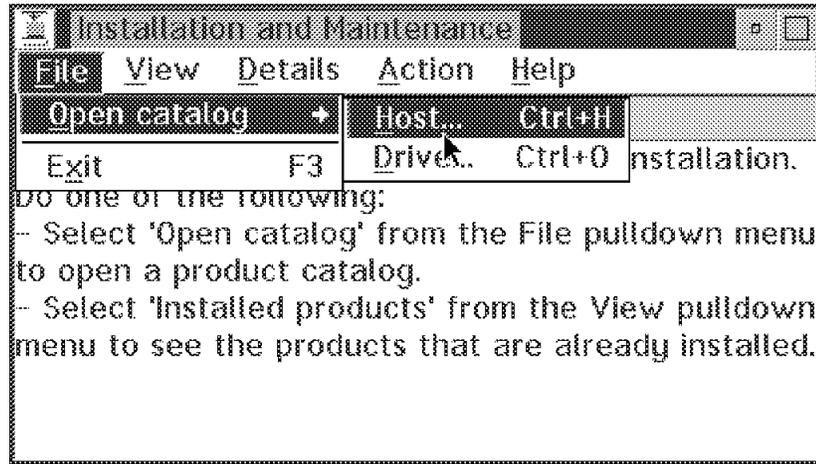

Figure 117. Selecting Host Catalog
- Select **File**, then **Open Catalog**, then **Host** from the menu bar as shown in Figure 117 on page 125